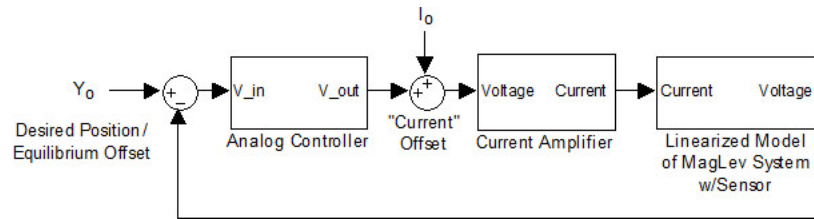

Figure 2: High-level block diagram of our system with all details hidden.
A high-level block diagram of the system is shown in Figure 2:
1. Look over Figures 2 and 3 above and the system modeling equations.